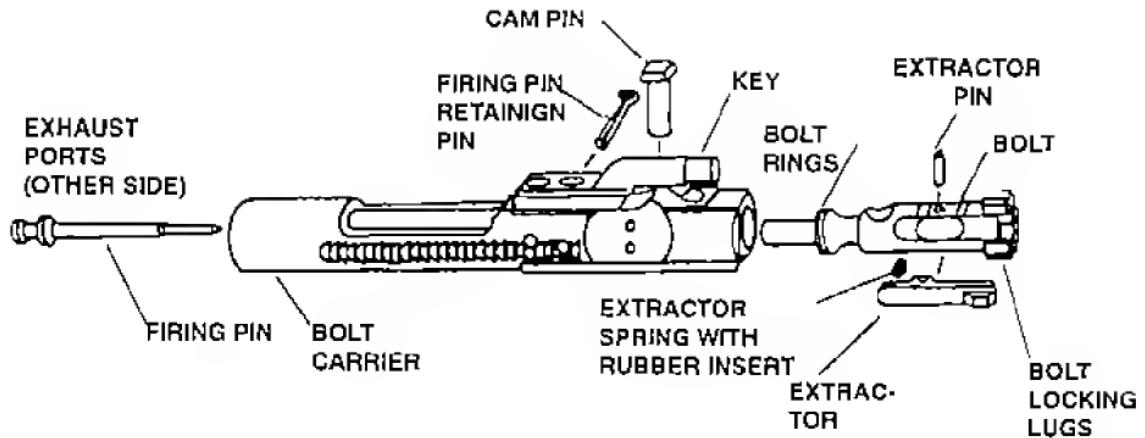
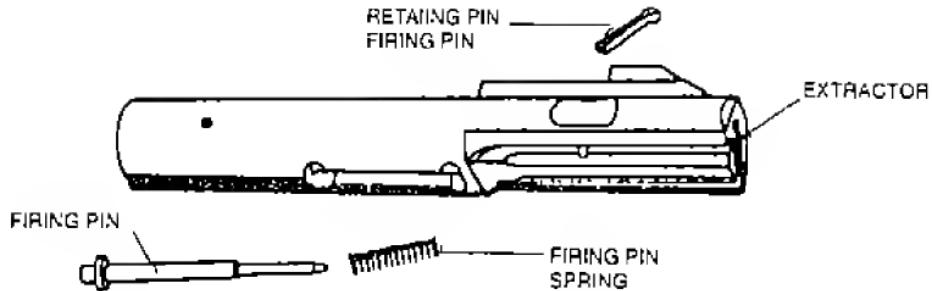

FIGURE 13 — BOLT AND BOLT CARRIER ASSEMBLY - 223 Cal.
FIGURE 14—BOLT - 9MM CARBINE
7. Push in firing pin retaining pin from right to left of bolt carrier (223 cal) bolt (9mm) and remove pin by pulling it out to the left. (See Figure 13 — 223 cal , or Figure 14 — 9mm).